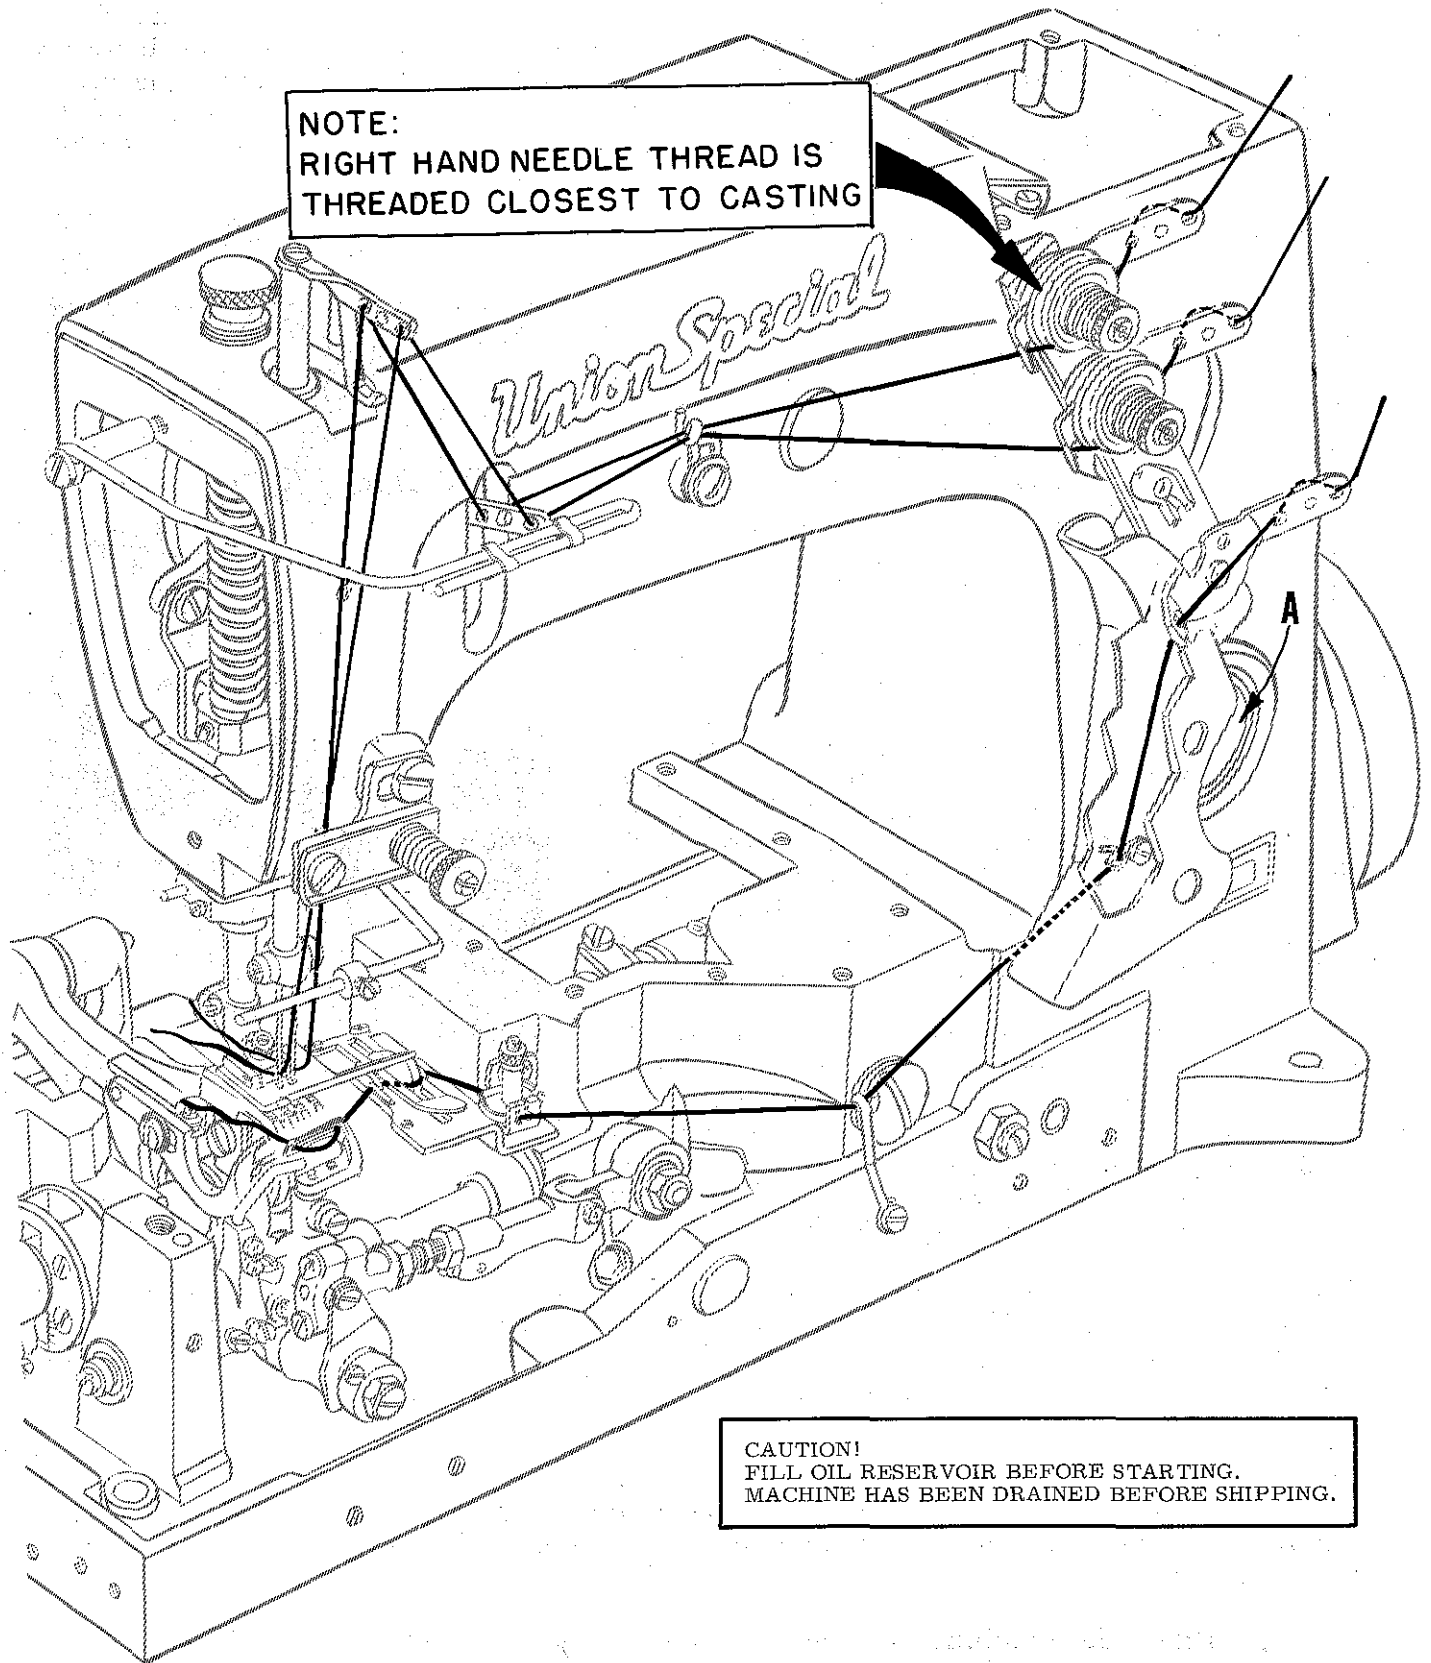

Fig. 1
**CAUTION!** Oil has been drained from the main reservoir before shipment, so the reservoir must be filled to the proper level as indicated on oil gauge (A, Fig. 1) before beginning to operate. Run machine slowly for several minutes to distribute the oil to the various parts. Full speed operation can then be expected without damage.